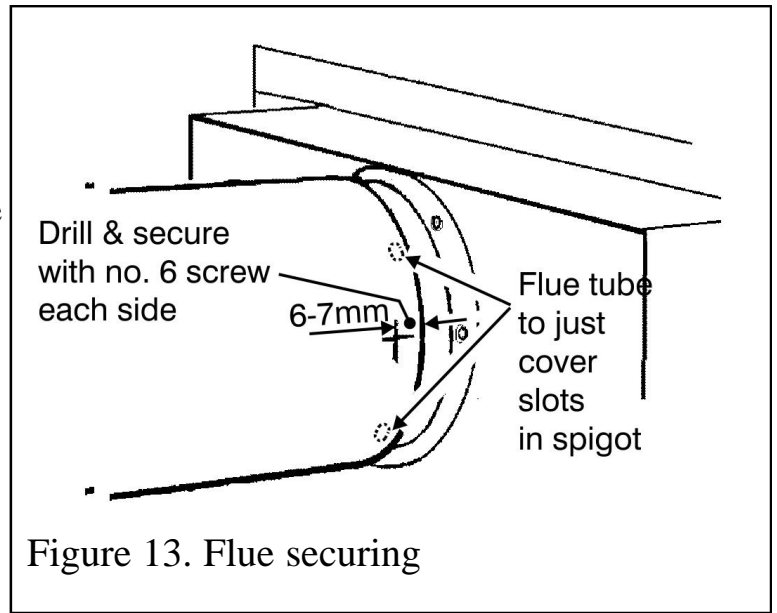

Figure 13. Flue securing
- Fit the flue tubes firmly over the spigots at the rear of the fire. Make sure that the seam on the flue tube is not at the bottom. Push on until the outer (air) tube just covers the slots in the appliance outer spigot (See figure 13).
- Secure the flue to the fire by drilling through the outer flue tube and outer spigot at a distance of between 6mm & 7mm from the cut end of the outer flue tube and securing with the two no.6 self tapping screws supplied (See figure 13).